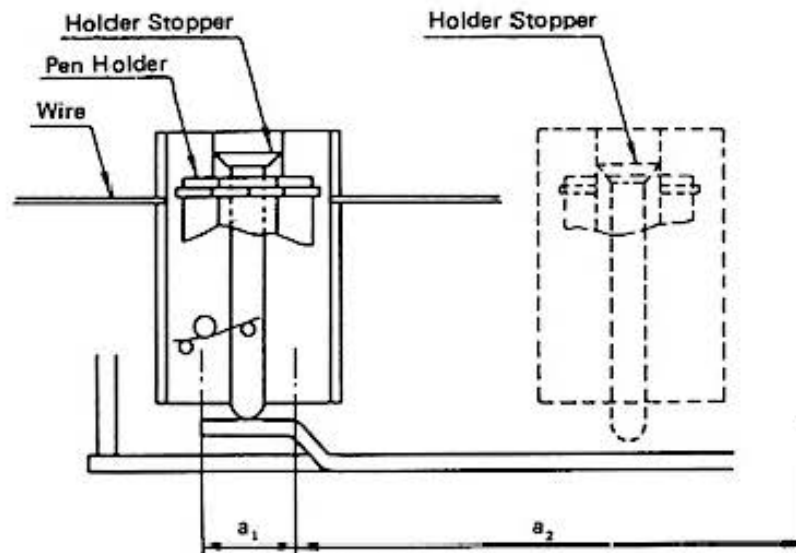

Fig. 5
To operate the color change mechanism, first, the slider is moved to the area a-1 in Figure 6 (45 pulses to the left from the origin). Then, the holder stopper in the slider contacts the projection on the holding plate, and the wedge section of the holder stopper slips out of the pen holder, which frees it to rotate. Next, by repeating the movement of the X motor for 30 pulses each in direction A and to the left, the pen (1) in Figure 5 changes to pen (2). The spring moves the holder stopper to the right until it returns to the origin. If then enters the pen holder groove. The pen holder is then fixed, and printing is ready.